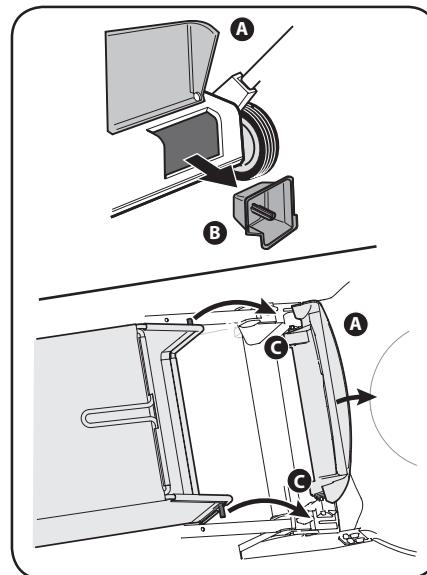

Figure 2-7
- Follow steps below to attach grass catcher. See Figure 2-7.